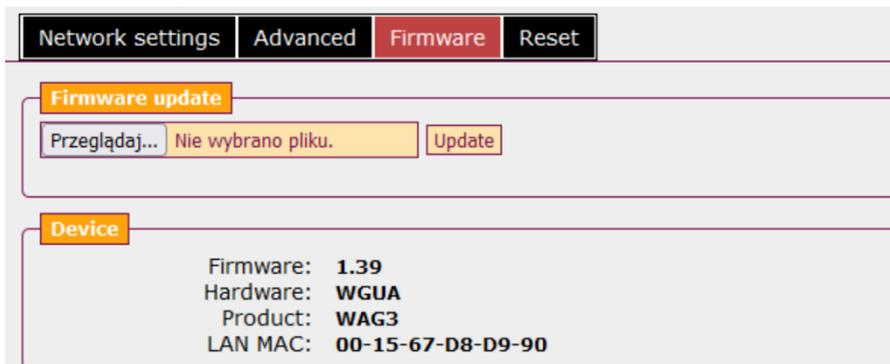

Fig. 8
3. After refreshing, the page should look like presented in Fig. 8.